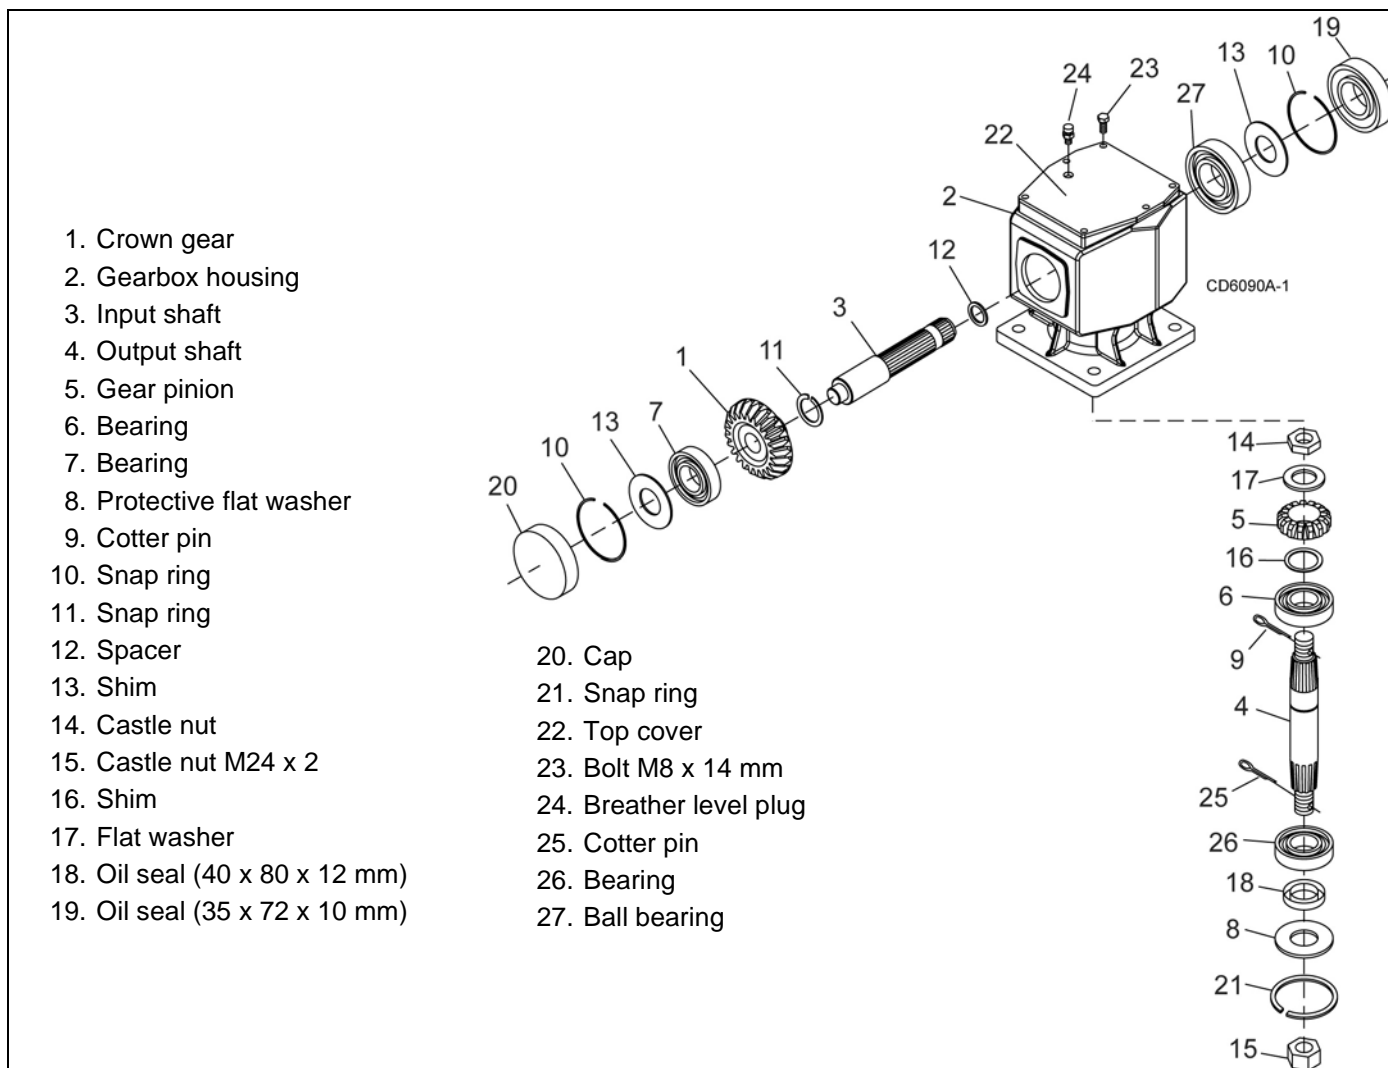

Figure 18. Gearbox Assembly
2. Remove vent plug (24). Figure 18, and siphon gear lube from housing through this opening.
5. Remove vertical shaft seal (18). Replace with new seal (see Seal Replacement, page 24).
2. Remove vent plug (24), Figure 18, and siphon gear lube from housing through this opening.
3. If the leak occurred at either end of horizontal shaft, remove oil cap (20) and/or oil seal (19). Replace with new one (see Seal Replacement, page 24).
Refer to Figure 18.